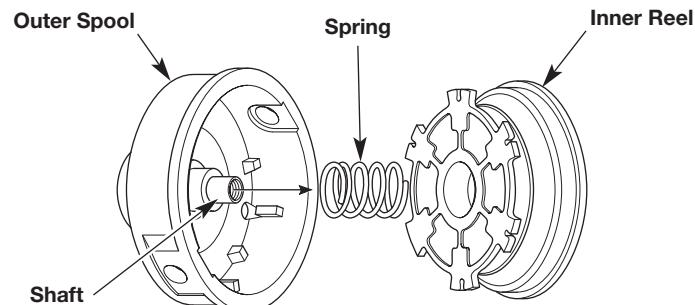

Fig. 12
- Remove the inner reel from the outer spool (Fig. 12).
- Remove the spring from the inner reel (Fig. 12).